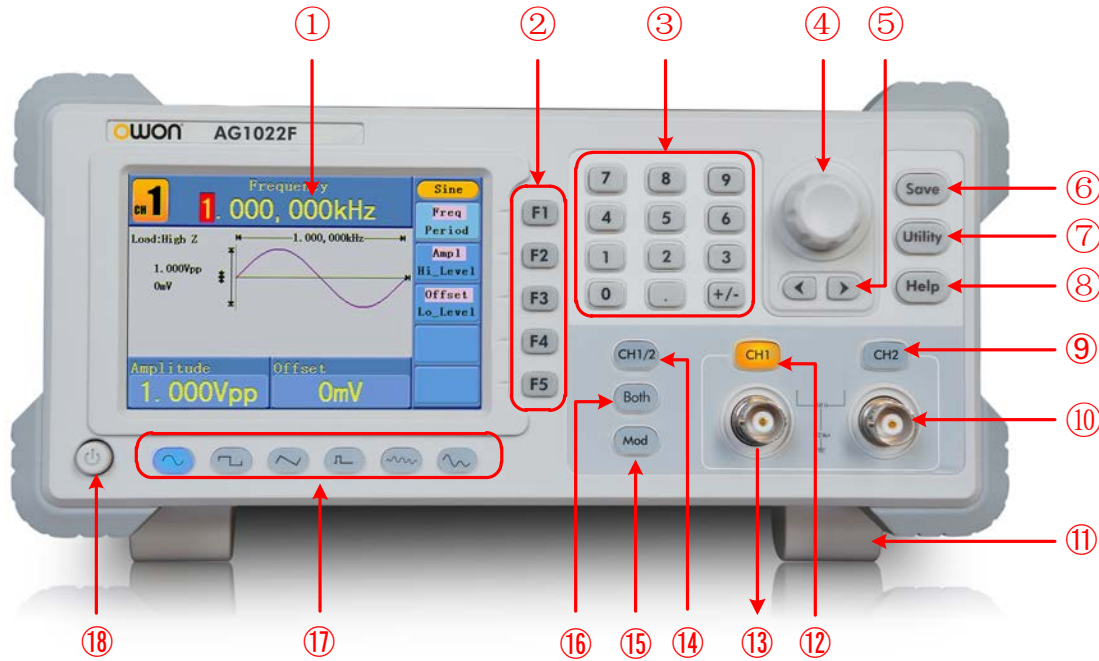

Figure 4-1 Front panel overview (take AG1022F for instance)
Unfold the foot stools on the bottom of the generator, as ⑪ in *Figure 4-1*.